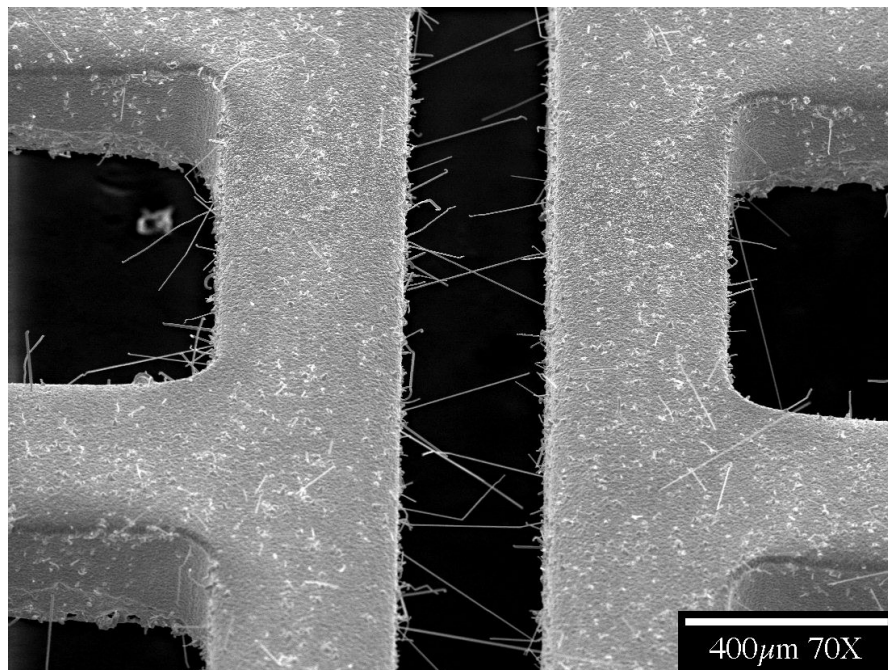

Figure 4 – Tin Whiskers on a Matte Tin SOIC leadframe after three years storage at ambient conditions.
2. Matte tin (tin with a dull low gloss finish and larger grain size) is more resistant to whiskering than bright tin. It can still grow whiskers, as shown in Figure 4.